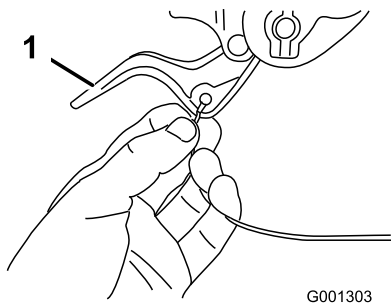

Figure 7
2. Route either the left or right cable end over the lower handle and insert the cable end into the hole in the corresponding wheel-clutch lever (Figure 7).